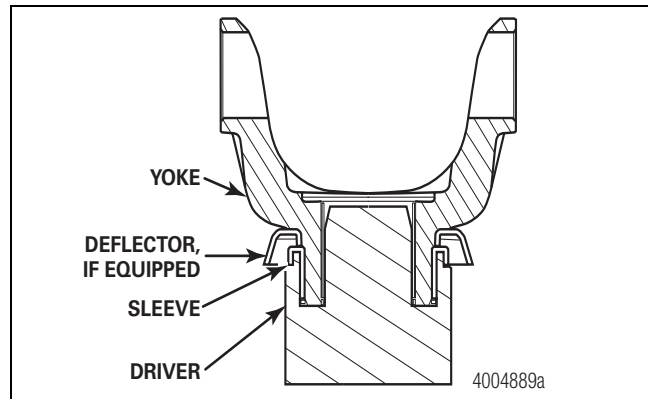

Figure 5.98
3. Install the deflector, if equipped, onto the yoke. You must install the deflector before you install the sleeve into the yoke. Figure 5.98.